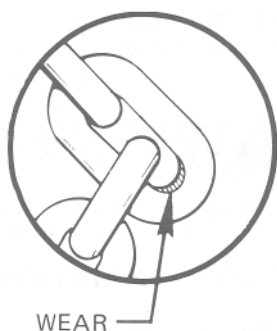
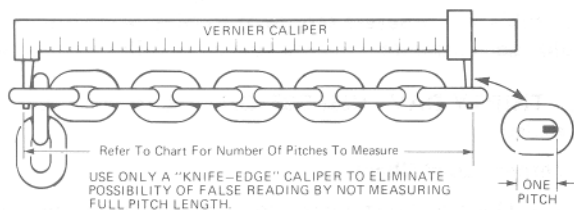

Figure 5-1. Check Chain Wear at Bearing Surfaces Between Links.
Figure 5-2. Checking Coil Chain Using Vernier Caliper.
(2) **Coil Type Load Chain.** Clean chain for inspection. Examine visually for gouges, nicks, weld splatter, corrosion or distorted links. Slacken chain and check bearing surfaces between links for wear, Figure 5-1. Greatest wear will often occur at sprocket at high or low point of lift, particularly when hoist is subjected to repetitive lifting cycles. Case hardness of chain is about .015" deep. Chain must be replaced before the case is worn through. Also check chain for elongation using a vernier caliper (Figure 5-2). Select an unworn, unstretched section of chain (usually at slack or tail end) and measure and record the length over the number of chain links (pitches) indicated in Figure 5-2. Measure and record the same length of a worn section in the load side of the chain. Obtain the amount of wear by subtracting the measurement of the unworn section from the measurement of the worn section. If the result (amount of wear) is greater than the amount specified in the "ALLOWABLE CHAIN WEAR" table, the chain has elongated beyond the maximum allowable length and must be replaced. Chain with excessively pitted, corroded, nicked, gouged, twisted or worn links should be replaced using only factory approved chain. **Never weld or attempt to repair coil chain.**